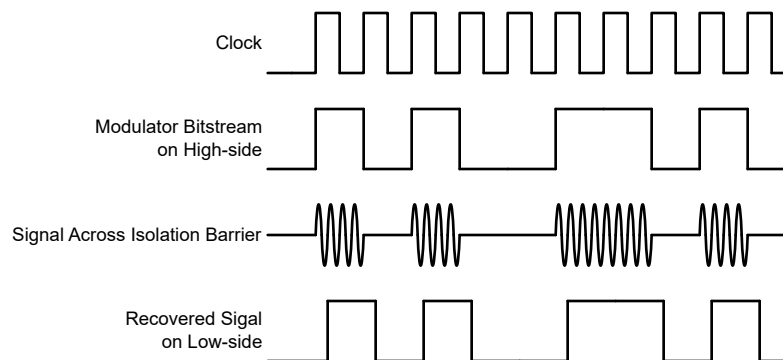

图 7-3. OOK-Based Modulation Scheme
The AMC1306M05-Q1 uses an on-off keying (OOK) modulation scheme, as shown in 图 7-3, to transmit the modulator output bitstream across the SiO₂-based isolation barrier. The transmit driver (TX) shown in the *Functional Block Diagram* transmits an internally generated, high-frequency carrier across the isolation barrier to represent a digital *one* and does not send a signal to represent a digital *zero*. The nominal frequency of the carrier used inside the AMC1306M05-Q1 is 480 MHz.